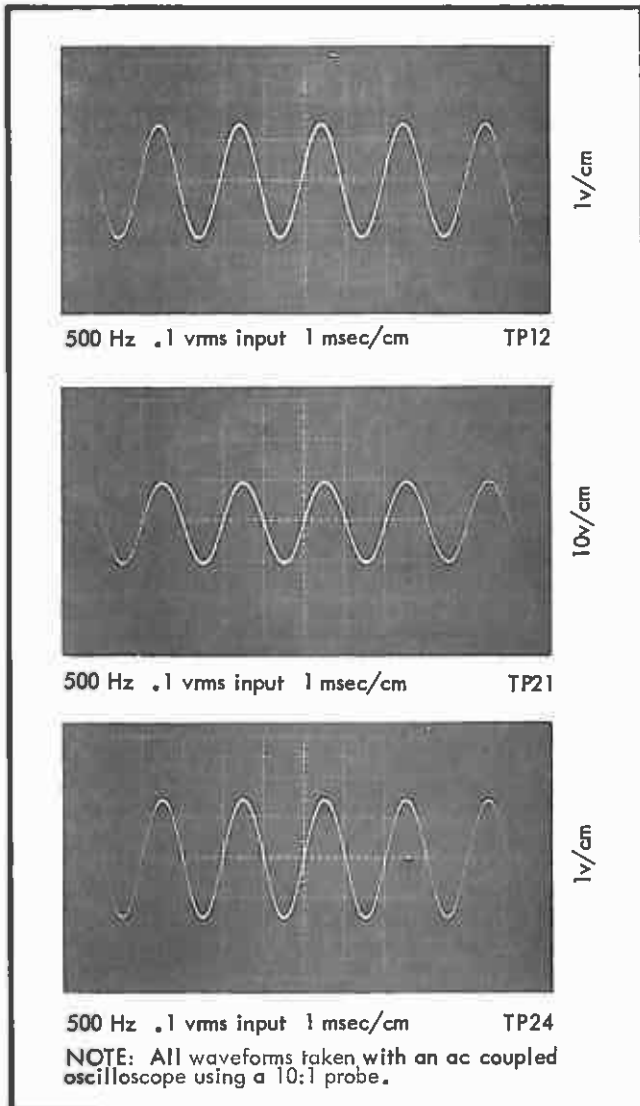

Figure 4-15. INPUT AND VARIABLE GAIN AC AMPLIFIER WAVEFORMS
- f. Observe the signal present at TP12, TP21, and TP 24 with an oscilloscope. The peak-to-peak values should correspond to the waveforms contained in Figure 4-15.
- h. Perform the range checks describe in Figure 4-16 at 500 Hz, observing that the signals at TP12, TP 21, and TP24 correspond to the specified peak-to-peak levels of Figure 4-15.
| RANGE SWITCH | INPUT RMS VOLTAGE | MODE SWITCH | PEAK-TO-PEAK WAVEFORM LEVELS OF FIGURE 4-15 |